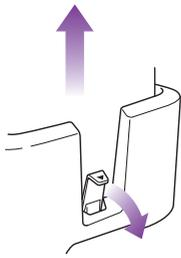

Fig. 12
- 8 To remove the motor base from inside the dough station, pull the locking tab away from the back of the motor base while you lift the motor base out of the dough station. (Fig. 12)